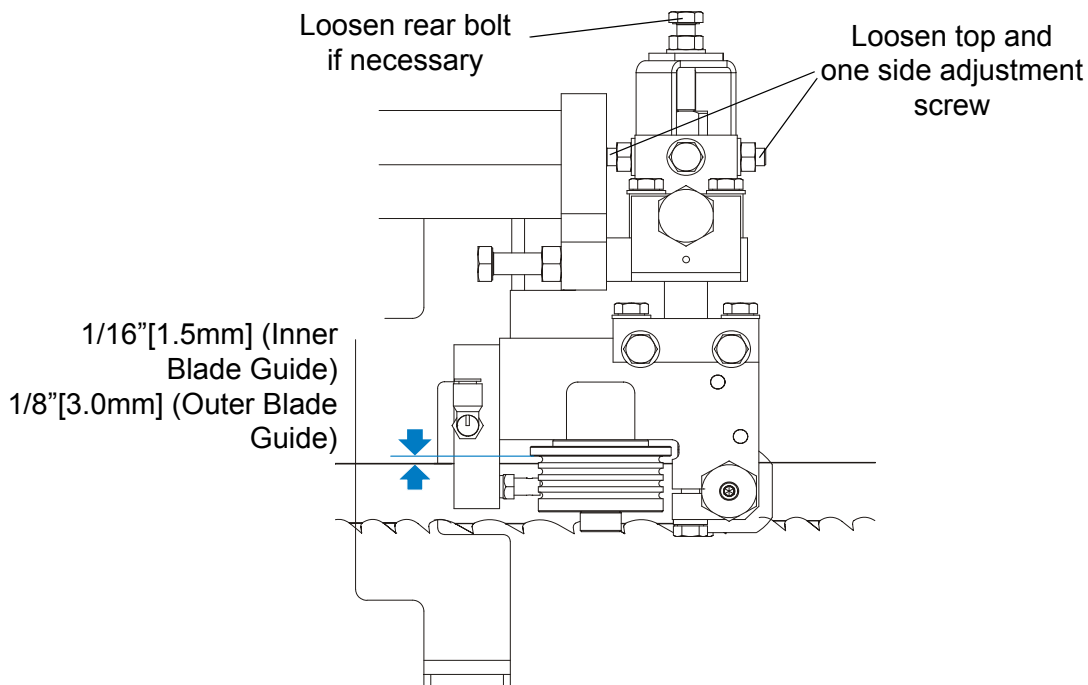

FIG. 7-12
**See Figure 7-12.** Loosen the top and one side screw shown and rear adjusting bolt if necessary. Tap the blade guide forward or backward until properly positioned. Retighten the screws and jam nuts.